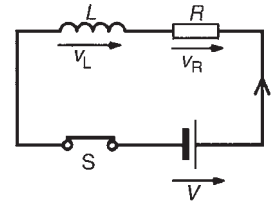

Figure 18.10
- (a) The circuit diagram for a series connected $L - R$ circuit is shown in Fig. 18.10. When switch S is closed, then by Kirchhoff's voltage law: